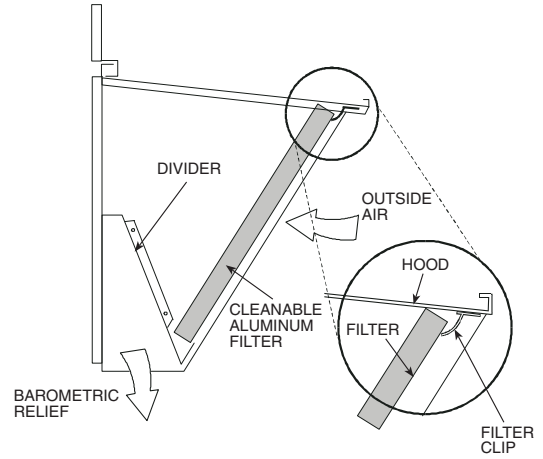

Fig. 17 — Economizer Filter Installation
- Open the filter clips which are located underneath the hood top. Insert the aluminum filter into the bottom filter rack (hood divider). Push the filter into position past the open filter clips. Close the filter clips to lock the filter into place. See Fig. 17.